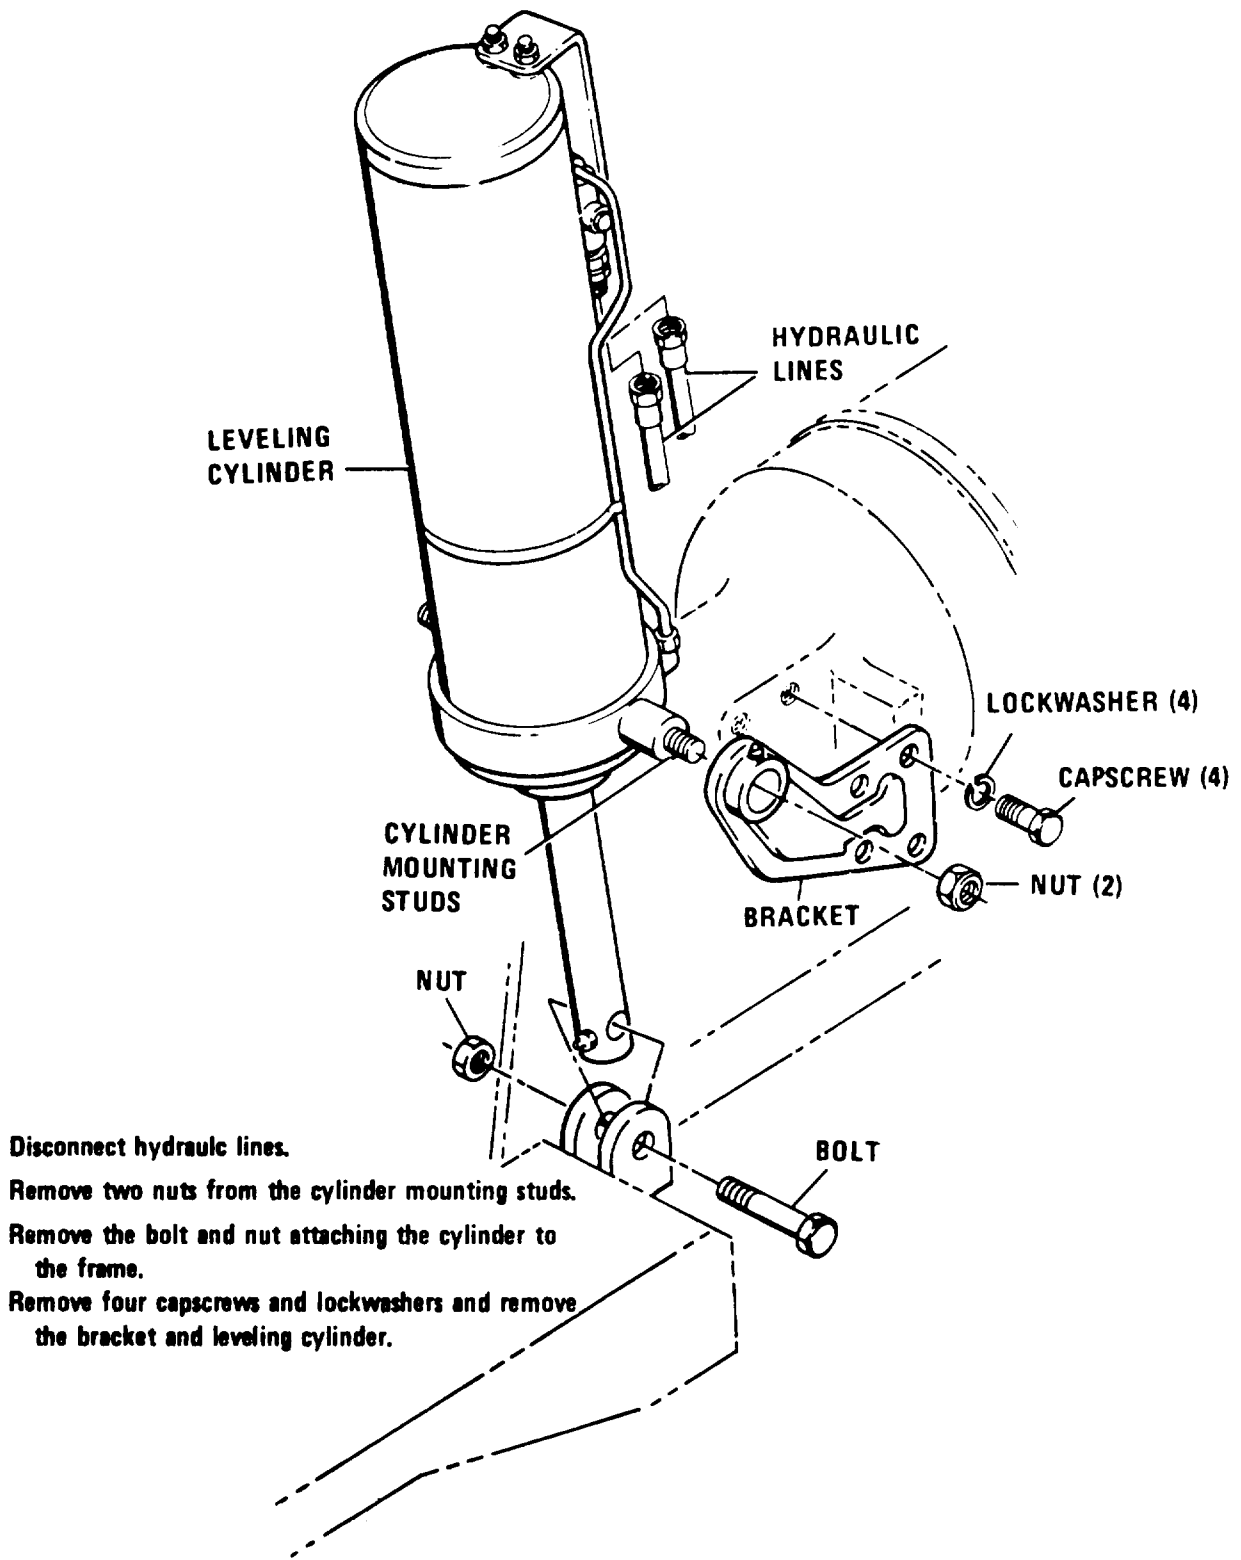

Figure 4-8. Elevating cylinder. removal and installation
(2) *Removal.* Remove leveling cylinder as instructed in figure 4-8.